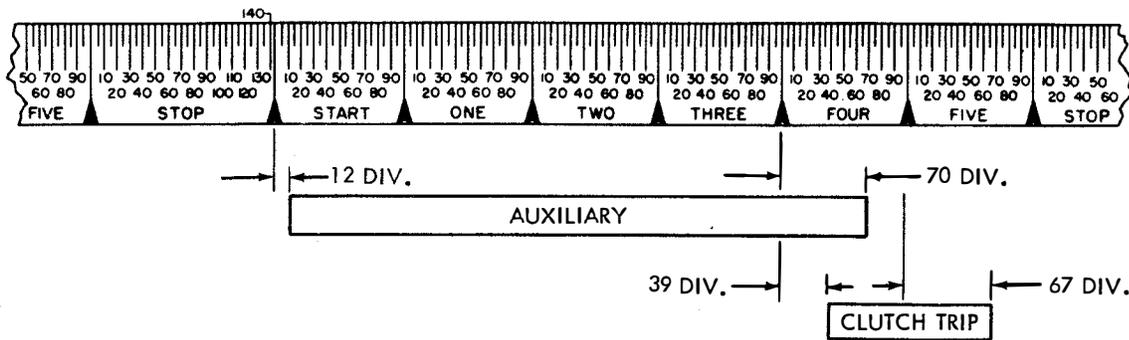

Figure 7 - Pulse Length Requirements for Storing Switch Auxiliary Contacts (28B Unit Fixed Head)
(1) With the test set connected to the auxiliary contact, the contact shall close at 12 ± 30 divisions in start pulse segment of test-set scale and open at 70 ± 30 divisions in No. 4 pulse segment of test-set scale. (See Figure 7.)
(2) With the distributor clutch-trip contact electrically isolated from the circuit, the clutch-trip contact shall close at 39 ± 30 divisions in No. 4 pulse segment of the test-set scale and open at 67 ± 30 divisions in the No. 5 pulse segment of the test-set scale. (See Figure 7.)